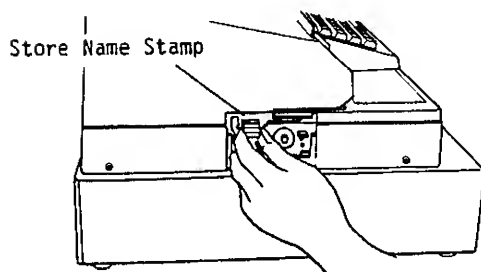

Fig. 5
3. Withdraw the store name stamp with the protruding part pinched with your fingers. (Fig.5)